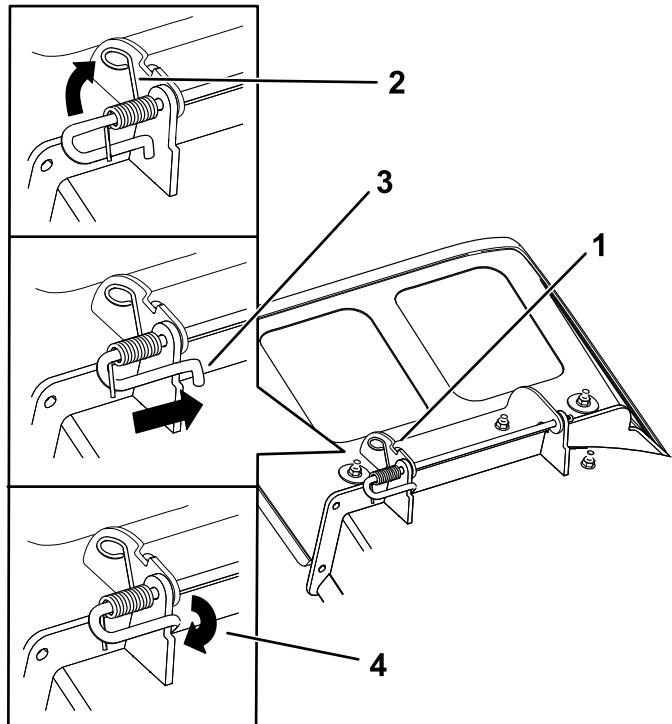

Figure 78
3. Position the new discharge deflector with the bracket ends between the welded brackets on the deck as shown in Figure 78.
5. Position the spring on the rod as shown in Figure 78 so that the shorter spring end comes from under the rod before the bend and going over the rod as it returns from the bend.
6. Lift the loop end of the spring and place it into the notch on the deflector bracket (Figure 78).
7. Secure the rod and spring assembly by twisting it so that the short end of the rod is behind the mower bracket welded to the deck (Figure 78).